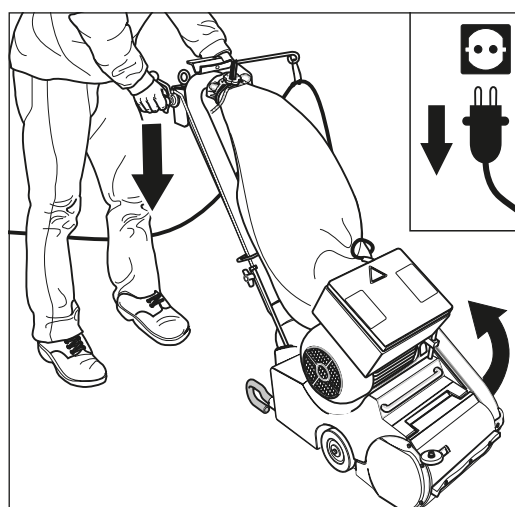
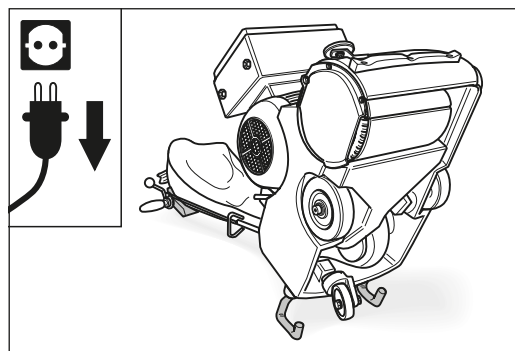

Fig. 82 Pull the power plug out of the socket and tilt the machine backwards over the safety guards.
Fig. 83 Place the machine carefully on the floor. **Ensure that the machine is standing securely!**
- 3 Tilt the machine backwards over the safety guards (fig. 82) and place it down carefully on the floor (fig. 83). **Ensure that the machine is standing securely!**